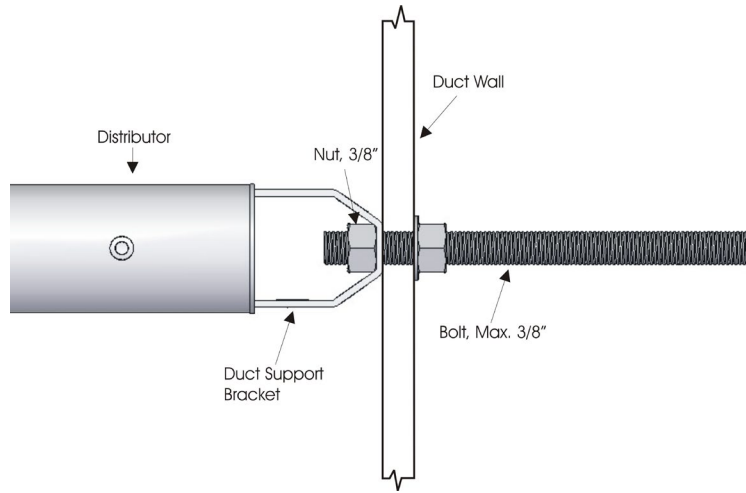

Figure 11: Duct Support Bracket Flush with Duct Wall
- 2** Distributors must be mounted level. There is a support bracket at the end of the distributor to secure to the duct wall. See Figure 11 to 14 for installation tips.